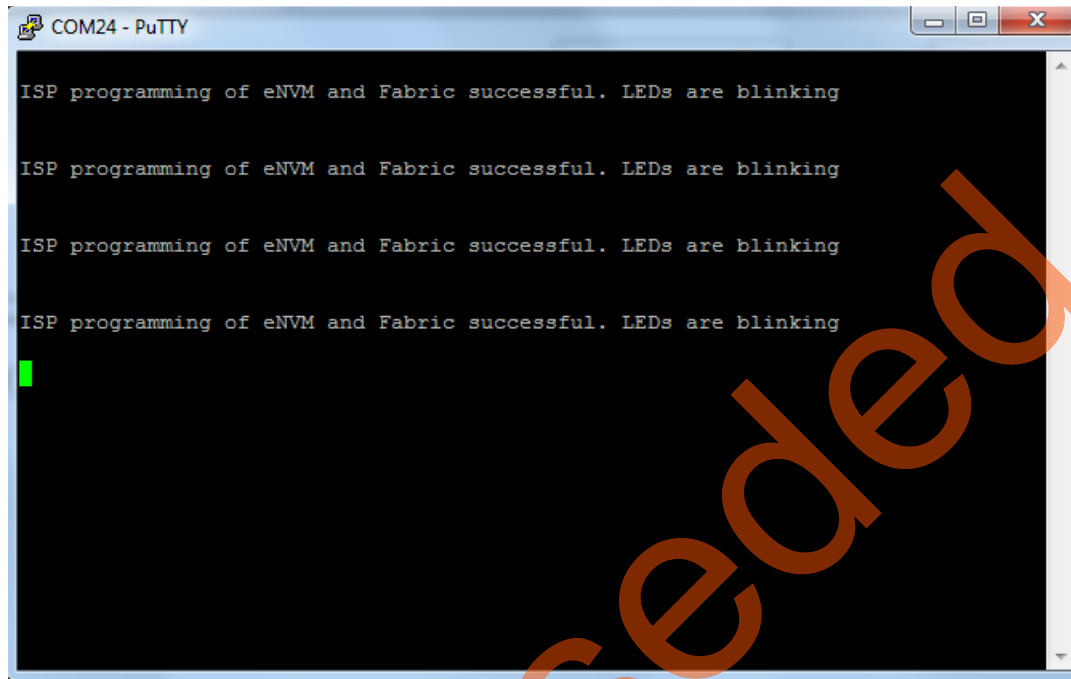

Figure 14 • ISP Program Successful
If the eNVM is programmed successfully, the serial terminal emulation program displays an operation success message. Figure 14 shows an operation success message for eNVM programming in the PuTTY window.
The result shown in Figure 14 is for the `isp_fabric_and_envm.spi` file. Table 4 shows the possible results for ISP Program operation mode for sample programming files provided in folder `<download_folder>\sf2_isp_using_uart_interface_demo_d\host_tool_and_samples`. Not all `.spi` files listed in the table are demonstrated.
2. Make sure that the *USB to UART bridge drivers* are automatically detected. Of the four COM ports, select the one with **Location** as *on USD Serial Converter D*. Figure 14 shows an example **Device Manager** window that has the **USB Serial Port** and its properties showing the port number and location. COM port number is required to run the demo design, so make a note of it.